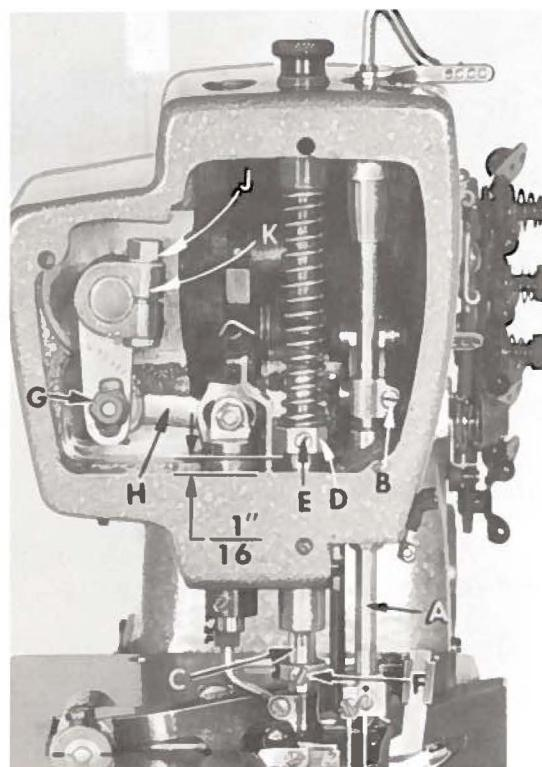
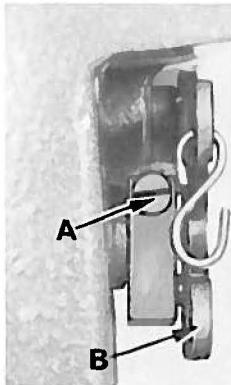

Fig. 4
Fig. 10
Align the needle bar (A, Fig. 4) and set to height, using the proper test pins and test plate of the right gauge. See chart below.
If test plate and test pins are not available, insert a new set of needles (Type and Size as required) and align the needle bar so the needles center in the needle holes of throat plate. To align needle bar, loosen needle bar clamp screw (B, Fig. 4) and turn bar as required. Tighten clamp screw.
The height of the needle bar (A, Fig. 4) is correct when the top of the left 602 stitch needle's eye is $3/64$ inch below the underside of the front looper, when the point of looper, moving to the left, is even with the left side of this needle. If adjustment is necessary, loosen screw (B) and reposition needle bar (A) up or down as required and retighten screw. Care must be taken not to disturb the alignment of the needle bar while making this adjustment, as the needles are to have equal clearance on both the right and left sides of the needle slots in throat plate.
If adjustment is needed, loosen tension release lever screw (A, Fig. 10), located at the back of the machine and move tension disc separator as required. Retighten screw. After adjustment there should be no binding at any point.
The height of the presser bar (C, Fig. 4) is set correctly if it is possible to remove the presser foot when the foot lifter lever (B, Fig. 10) is fully depressed. Also there should be approximately $1/16$ inch clearance between lower surface of the presser bar connection and guide (D, Fig. 4) and the bottom surface of head opening in the bed when the foot lifter lever is released and the presser foot resting on the throat plate, with the feed dog down below the throat plate.
Set the presser bar stop collar (F, Fig. 4) so that the presser foot does not contact the spreader when raised.
The arc travel of the spreader should be set at $9/16$ inch. Measurement is made by placing a scale between the two extreme spreader arc travel points. Adjustment can be made by loosening nut (G, Fig. 4) and moving the connecting link (H) up or down as required to obtain the desired amount of arc travel. Set the connecting link so that its arc travel is equal distance to the center of its arc. This is accomplished by loosening nut (J) and moving the spreader rocker shaft arm (K) to position the connecting link properly.